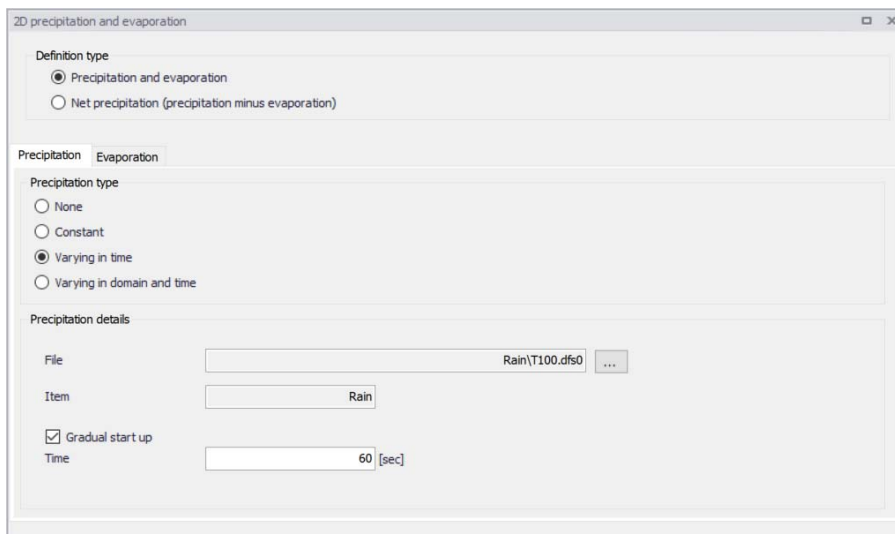

Figure 4.24 The 2D Precipitation and Evaporation editor
These options are available on the 2D Precipitation and Evaporation editor when the 2D Overland Hydrodynamic (HD) module is active (Figure 4.24).